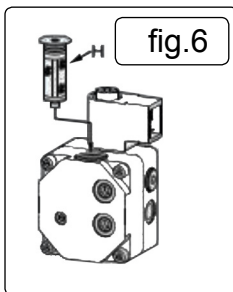

fig.6
8.1.1. Clean fuel filters by unscrewing the filter tray (clockwise) Remove the filter cartridge and wash it with petrol or replace it if necessary. Check seal O-ring and replace it if necessary. Reassemble the sump (Fig.3). The fuel filter installed on the gear pump should be cleaned or replaced if necessary by unscrewing cap H (see Fig. 6)